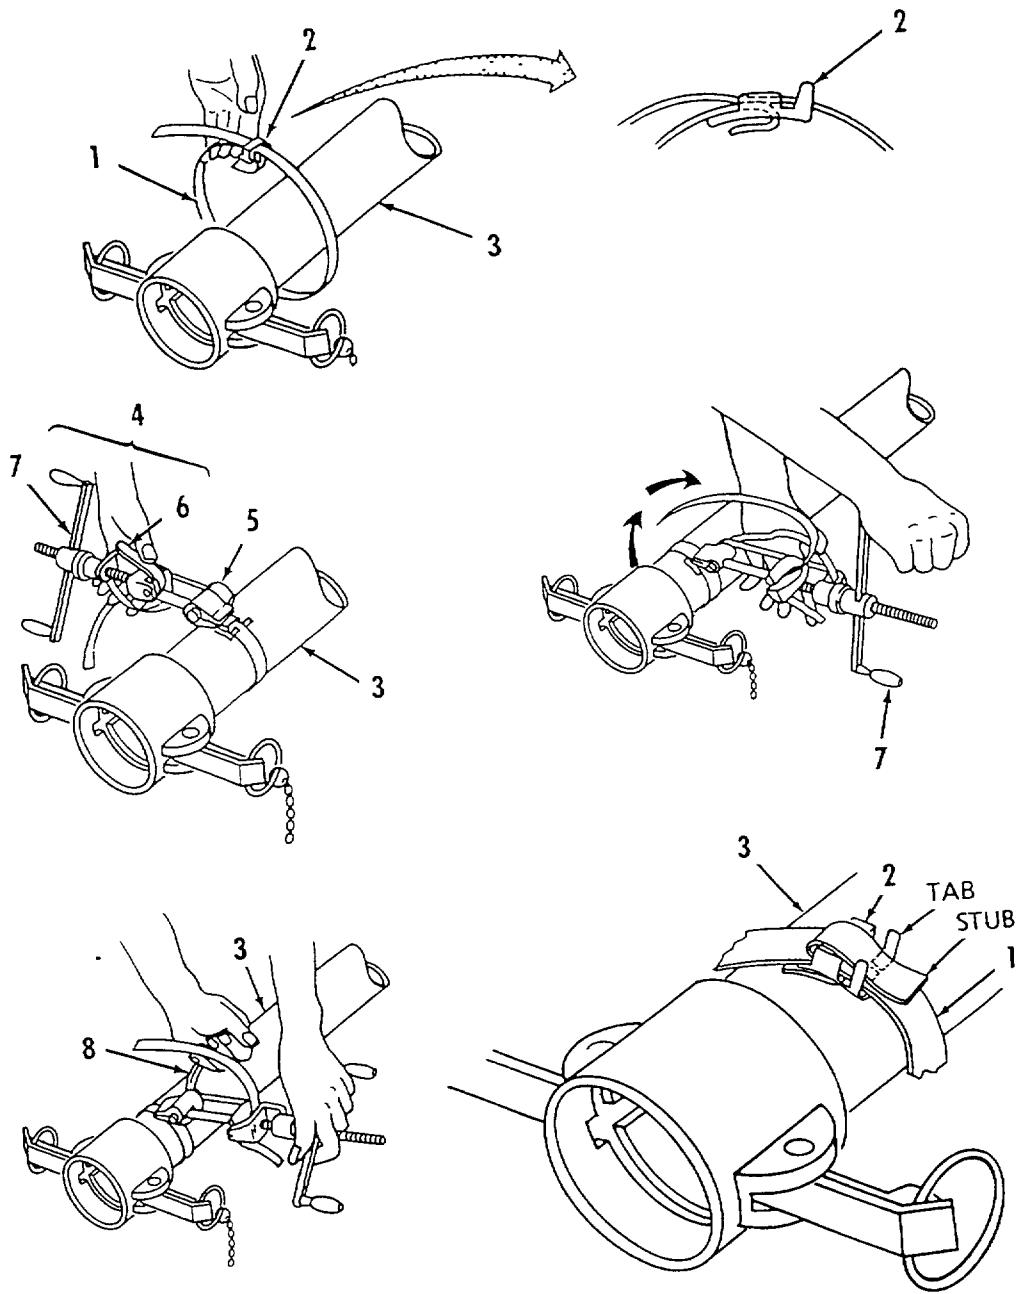

Figure 4-2. Strapping and Seal Installation.
- (2) Cut a piece of strapping (1, figure 4-2) 36 inches long.
- (3) Slide seal (2) onto strapping (1) as shown Bend end of strapping under seal.
- (4) Wrap other end of strapping (1) around hose (3) and through seal (2) Position strapping on hose about 1 Inch from end of coupling.
- (5) Wrap another loop of strapping (1) around hose (3) and through seal (2).
- (6) Position strapping (1) In slots of clamping tool (4). Tool nose (5) should fit snug against seal (2).
- (7) Apply pressure to gripper lever (6) and turn handle (7) until strapping (1) is snug. Tool will lock In place when correct tension Is applied Reposition tool as required.